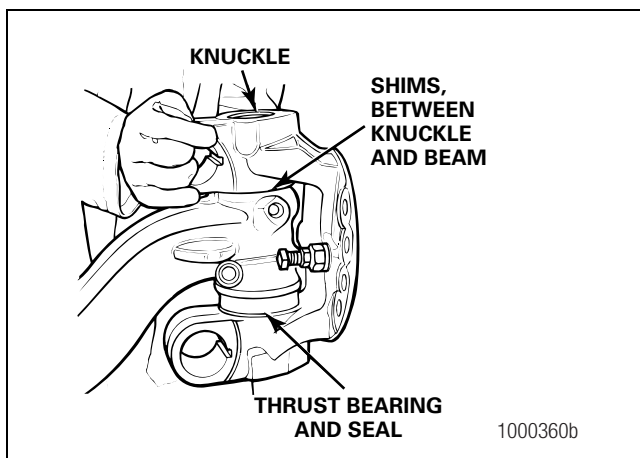

Figure 4.19
10. While wearing gloves, remove the shims, the thrust bearing and the seal from the beam and knuckle. Figure 4.19.